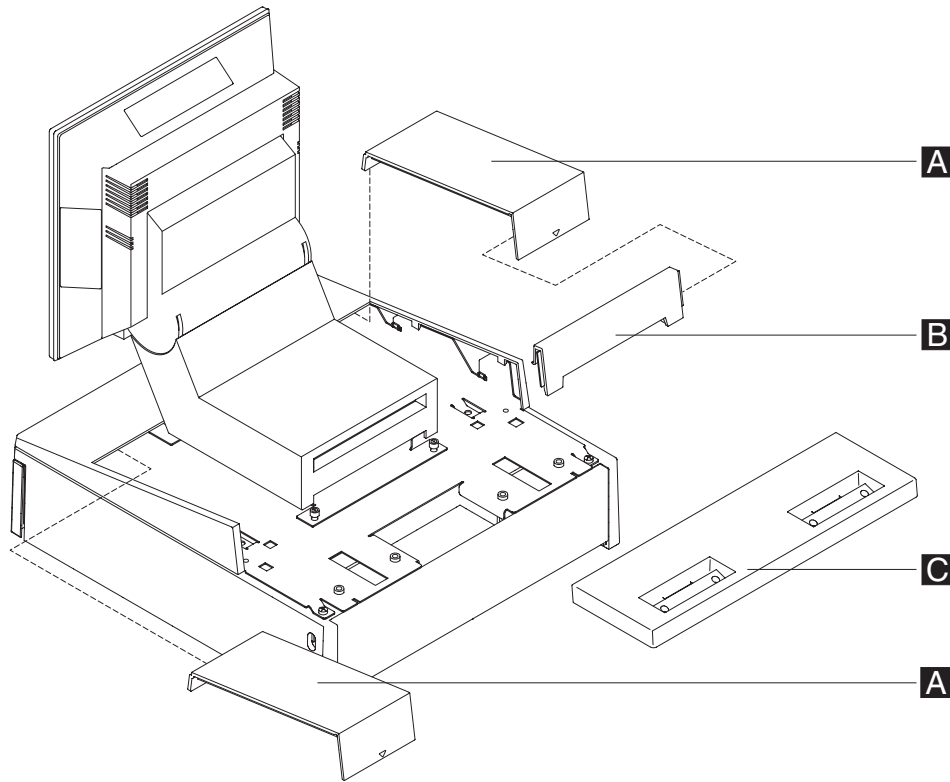

Figure 31. Removing filler panels on cash drawer integration tray
- a. Remove the rear modesty cover **C** as shown in Figure 31.